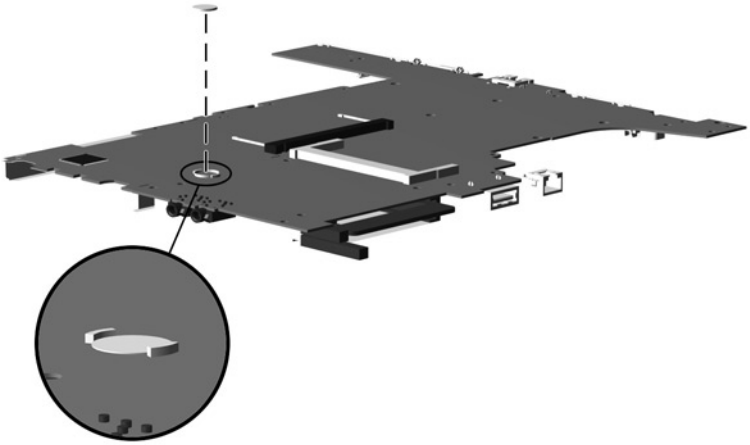

Figure 5-25. Removing the Disk Cell RTC Battery
3. Lift the edge of the RTC battery to disconnect and remove it from its socket (Figure 5-25).